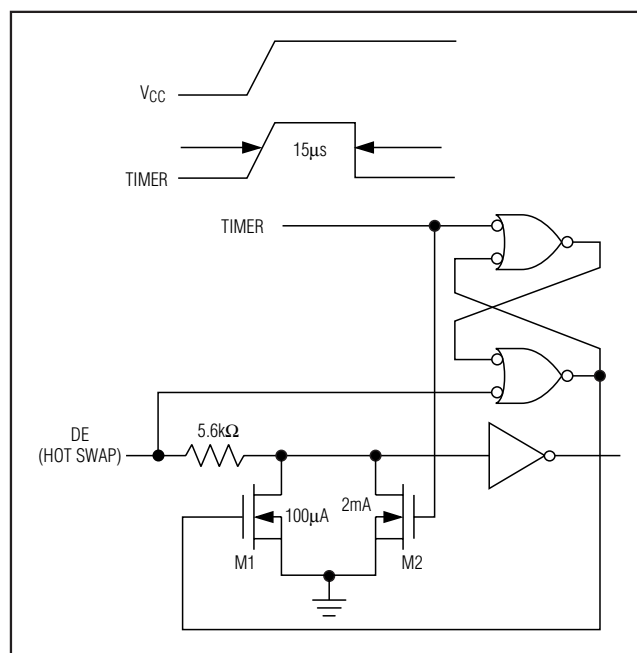

Figure 10. Simplified Structure of the Driver Enable Pin (DE)
At the driver-enable input (DE), there are two NMOS devices, M1 and M2 (Figure 10). When  $V_{\text{CC}}$  ramps from zero, an internal  $15\mu\text{s}$  timer turns on M2 and sets the SR latch, which also turns on M1. Transistors M2, a  $2\text{mA}$  current sink, and M1, a  $100\mu\text{A}$  current sink, pull DE to GND through a  $5.6\text{k}\Omega$  resistor. M2 pulls DE to the disabled state against an external parasitic capacitance up to  $100\text{pF}$  that may drive DE high. After  $15\mu\text{s}$ , the timer deactivates M2 while M1 remains on, holding DE low against three-state leakage currents that may drive DE high. M1 remains on until an external current source overcomes the required input current. At this time, the SR latch resets M1 and turns off. When M1 turns off, DE reverts to a standard, high-impedance CMOS input. Whenever  $V_{\text{CC}}$  drops below  $1\text{V}$ , the input is reset.